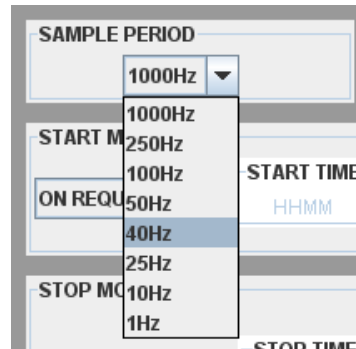

Figure 7.5 - Sample Period Selection
- Next select the sample period from the drop down box (see Figure 7.5 - Sample Period Selection). This will select the speed at which the unit records. The higher the frequency the more resolution however this is a trade off with the efficiency of the unit as at lower frequencies the power draw is reduced, extending the battery life and overall time of recording. With this in mind the sample period should be chosen to suit the nature of that particular record.